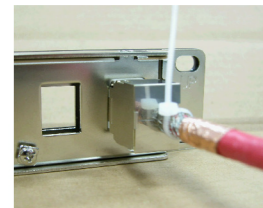

FIGURE 2
- B. With the bottom latch engaged to the Patch Panel, rotate the Jack upward until the flexing side of the keystone latch engages with the Patch Panel as shown in figure 2. There should be a slight clicking sound as the latch engages.